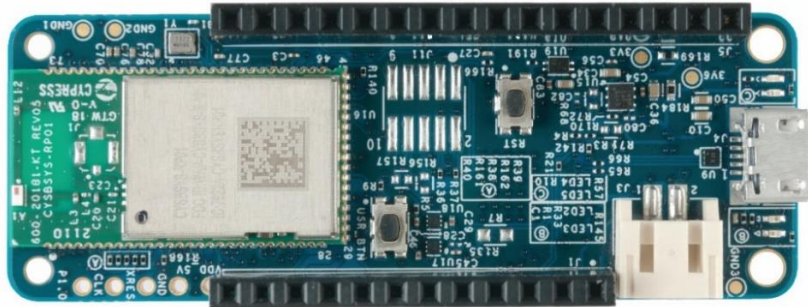

Figure 1: CYBSYSKIT-DEV-01 rapid IoT connect developer kit
- Rapid IoT connect developer kit (CYSBSYSKIT-DEV-01) (see **Figure 1**)